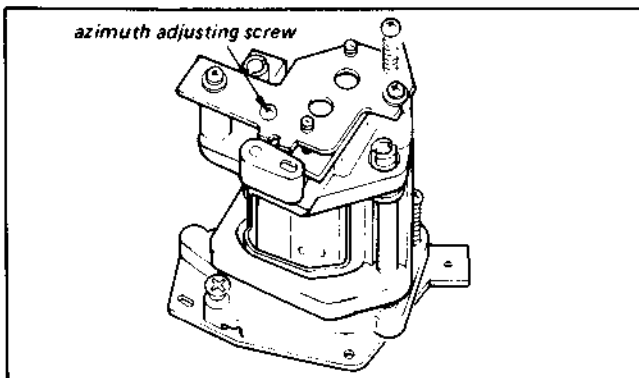

Fig. 4-50. Azimuth adjustment
- (1) Terminate the AUDIO OUT terminal with 100 kohms and connect a VTVM.
- (2) Reproduce the 5 kHz audio signal of the alignment tape.
- (3) Maximize the output level with the azimuth adjusting screw provided on the audio head (see Fig. 4-50).